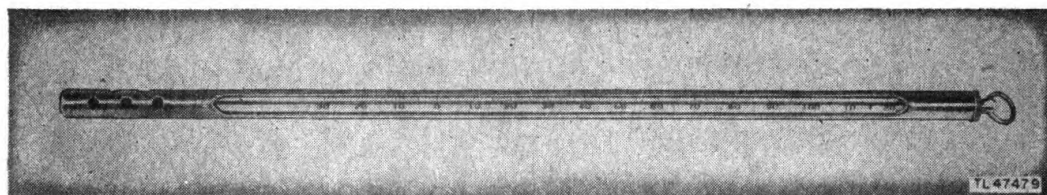

Figure 21. Thermometer and case.
23. THERMOMETER AND CASE (fig. 21).